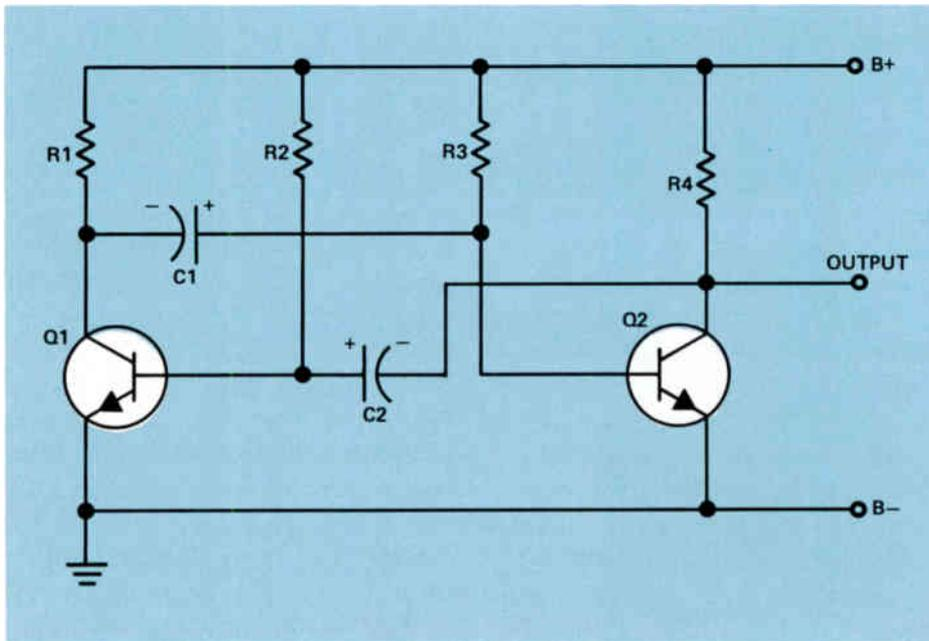
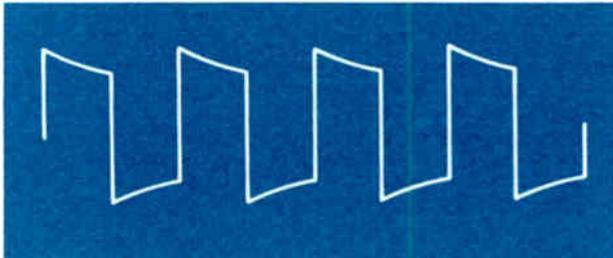
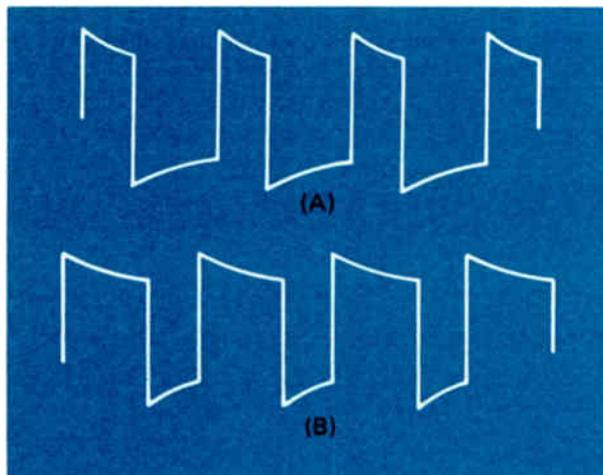

Figure 16. A collector-coupled multivibrator.
Figure 18. Output from a symmetrical multivibrator.
Figure 19. Output from an asymmetrical multivibrator with (A) having a shorter pulse width than (B).
A schematic diagram of a collector-coupled multivibrator is shown in Fig.16. The multivi-
In the circuit shown in Fig.16, one of the transistors will start conducting first or slightly faster than the other. Let's assume that Q1 starts conducting first. As the current through Q1 increases, the voltage drop across R1 will increase. This will cause the voltage at the collector of Q1 to swing in a negative direction. Electrons will flow through the transistor Q1 to the one plate of C1, charging it with the polarity shown. At the same time, electrons leave the positive plate and flow through R3 back to B+. In flowing through R3 they set up a voltage drop across the resistor having a polarity such that the base end is negative. The negative voltage across R3 drives the base of the transistor Q2 negative with respect to the emitter of Q2 so Q2 will be cut off. The transistor will be cut off as long as C1 is charging through R3. It will be developing a voltage across R3 great enough to overcome the forward bias that the power supply is applying through R3 to the base of the transistor.
Multivibrators are called *symmetrical multivibrators* when each transistor conducts for the same length of time. In the circuit shown in Fig.16, this is what happens if  $C_1$  is equal to  $C_2$  and  $R_2$  is equal to  $R_3$ . Under these conditions,  $Q_1$  will conduct for a certain period of time and then be cut off.  $Q_2$  will conduct for an equal period of time while  $Q_1$  is cut off. Under these circumstances, the output from the multivibrator will resemble a waveform shown in Fig.18.
In the circuit shown in Fig.16,  $C_2$  discharging through  $R_2$  keeps  $Q_1$  cut off for a certain period. Similarly,  $C_1$  discharging through  $R_3$  keeps  $Q_2$  cut off. As long as the time constant of  $C_2$  and  $R_2$  is equal to the time constant of  $C_1$  and  $R_3$ , the output from the multivibrator will be symmetrical. However, by changing the time constants of these two networks we can obtain an asymmetrical output as shown in Fig.19. In the circuit shown in Fig.16, if  $Q_2$  conducts longer than  $Q_1$ , we'll have an output like the one shown in Fig.19(A). On the other hand, if  $Q_1$  conducts longer than  $Q_2$ , we can get an output as shown in Fig.19(B).
The value of the RC network used in coupling the transistors in Fig.16 will not only determine the waveshape of the output of the circuit; it will also affect the frequency at which the oscillator operates. For example, if the time constant of  $C_1$  and  $R_3$  or the time constant of  $C_2$  and  $R_2$  is decreased, the frequency at which the oscillator operates will increase. Similarly, if the time constant of the network is increased, the frequency at which the oscillator will operate is decreased. This type of multivibrator can be made to operate over a wide range of frequencies by selecting the time constant of the RC coupled networks.
time it is conducting, and the output will be like Fig.19(B).
- 15 Which components primarily determine the frequency at which the multivibrator shown in Fig.16 operates?
- 16 If C1 equals C2 and R2 equals R3 in the circuit shown in Fig.16, will the output from the multivibrator be symmetrical or asymmetrical?
- 17 In the circuit shown in Fig.16, if the value of C2 and R2 is decreased, how will the frequency of the multivibrator be affected?
- 15 The frequency at which the oscillator shown in Fig.16 operates is determined by C2-R2 and C1-R3.
10. In the circuit in Fig.16, which part affects the frequency of the multivibrator?